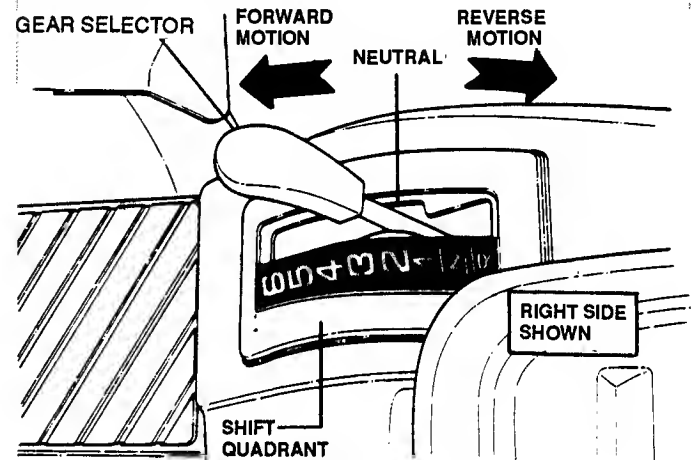

FIGURE 6
1. Shift GEAR SELECTOR forward for **FORWARD** motion or to the rear for **REVERSE** motion. Refer to Figure 6.
Check the battery once each month. Remove the caps and add distilled water as necessary to bring the level of the electrolyte up to about 3/32" over plates in each cell. **DO NOT FILL TO THE RINGS.** Carefully reinstall battery caps. In freezing weather, charge the battery after adding water to thoroughly mix the water in the electrolyte. Keep the terminals and cables clean and tight and make sure the red boot (shown in Figure 6) remains in position over the positive (+) terminals. Always disconnect black cable from negative (-) terminal first and reconnect last!